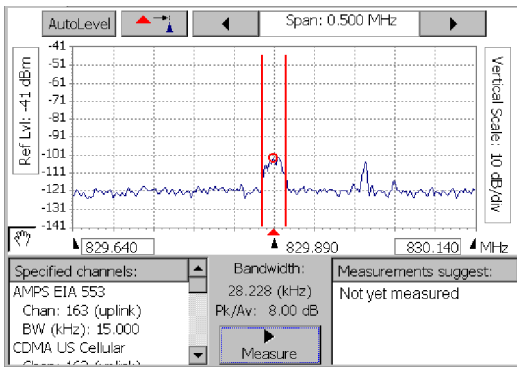

Figure 3-20: A spectrum trace in the Interference window
6. Tap the **Identify** tab. See Figure 3-20.
3. Look at the **Assignments for this Freq.** readout at the lower left of the display. See Figure 3-20.